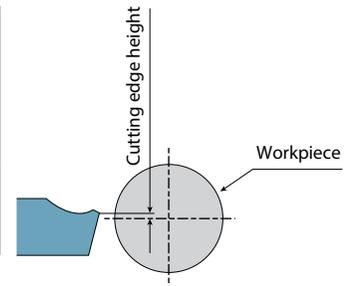

Fig. 3 (TKN, TK^{R/L})
1. For TKN and TK^{R/L}, set the cutting edge height 0.1~0.2 mm above the center height (Fig. 3)